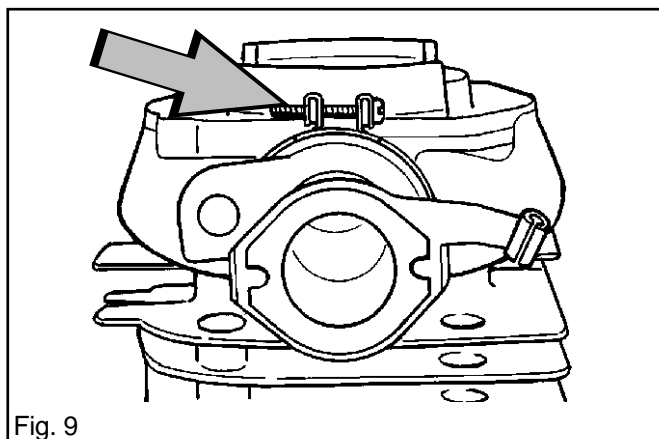

Fig. 9
3. Fit the inlet manifold to the cylinder. The clamp bolt should be on the underside. See fig. 9.